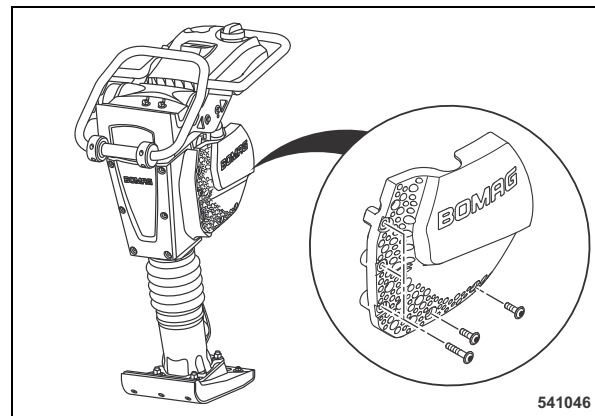

Fig. 80
- Remove the protection grid on the left hand side of the engine (Fig. 80).